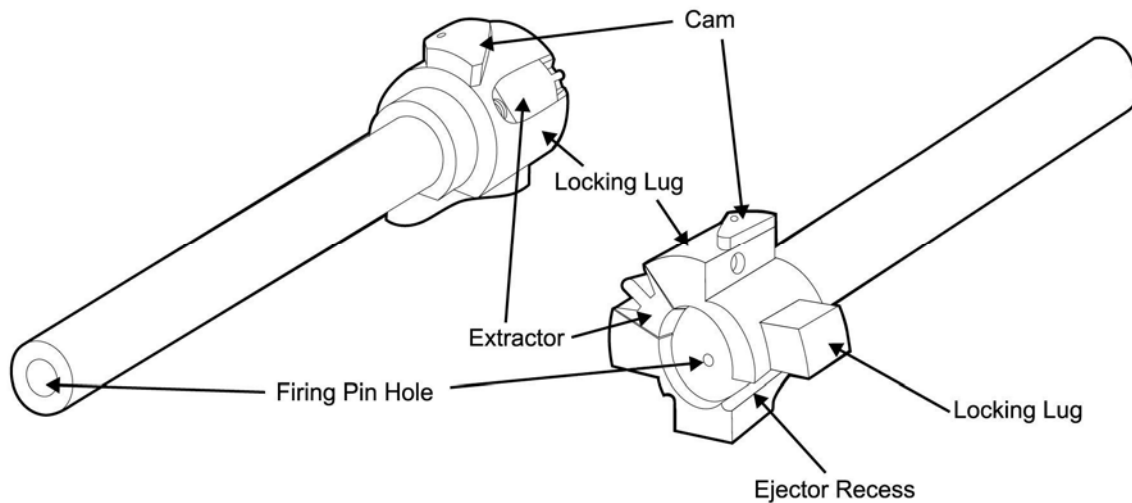

Figure 4. Bolt Assembly.
- (2) LIGHTLY lubricate the firing pin and the firing pin hole in the bolt. Refer to Figure 4.
- (3) Generously lubricate the extractor, extractor retaining pin, firing pin retaining pin and outside of the bolt. Refer to Figure 4.